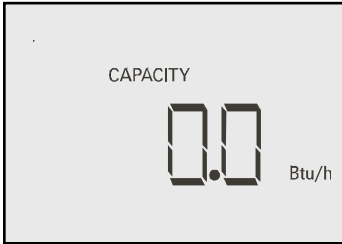

Figure 11
5.5.1 Press MODE button - CAPACITY will be displayed on LCD (Fig.11).